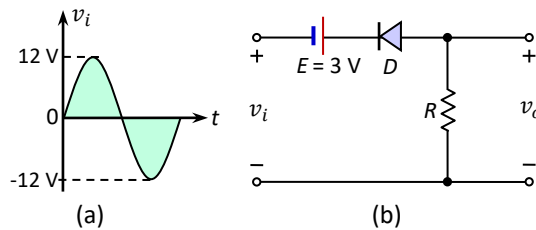

Fig.3-123: (a) Input signal, and
42. For the given input waveform and clipper circuit in Fig.3-123 determine and sketch the output waveform assuming i) An ideal diode and ii) A practical Si diode.